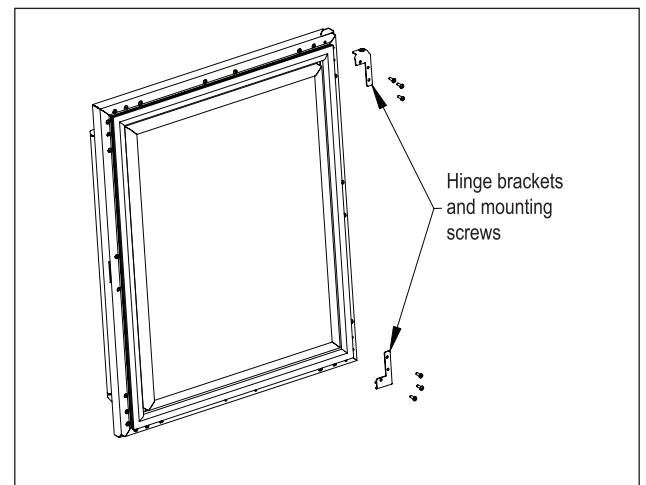

Figure 10. Door Brackets
6). Remove the top and bottom door hinge brackets and the push plunger brackets (Fig. 10). Retain the screws for later use.